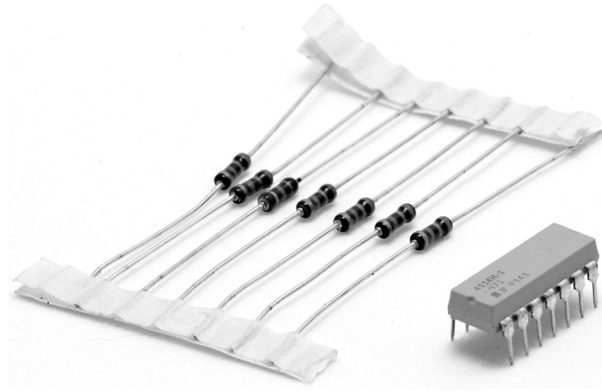

Fig. 19
- (iv) The seven resistors needed for the display are available either as separate resistors or as a dual in line (DIL) package as shown in Fig. 19.